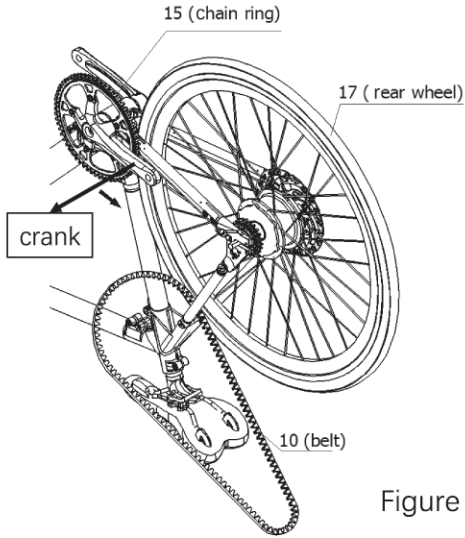

Figure 30-1.
d. Adjust the crank direction of Part 15 so that it points to the rear wheel, as shown in Figure 30-1.